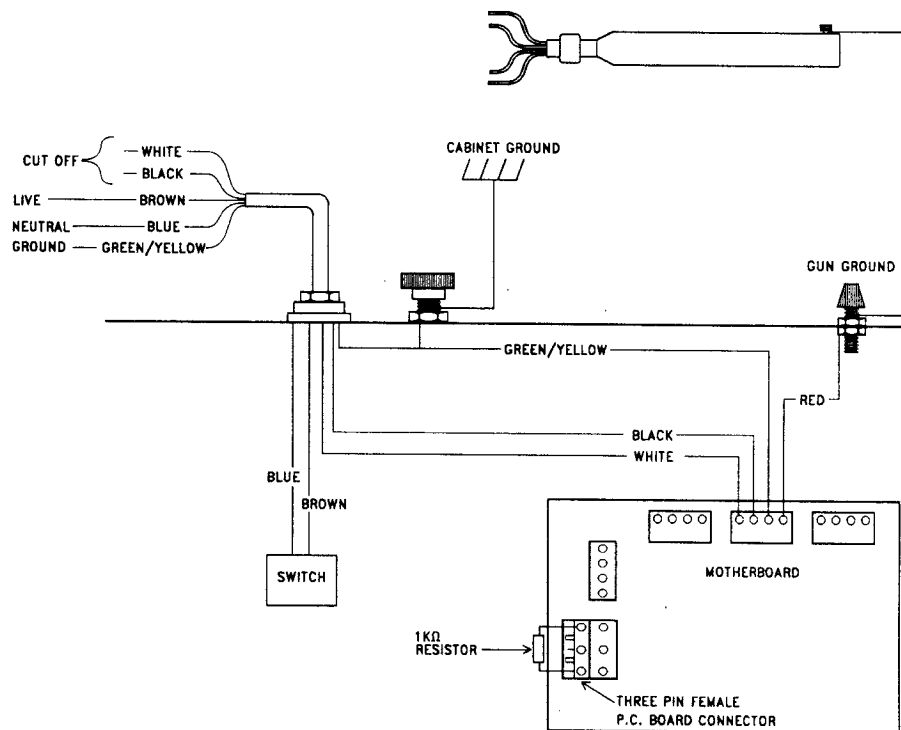

Figure 6 — Stand Alone Kit Installation (Automatic Gun)
1. A stand alone installation requires the use of a stand alone kit. See Kit Lists in Section 8 of this manual. The stand alone kit consists of a three pin female printed circuit board connector and a 1k ohm resistor. Refer to Figure 6. The stand alone kit is installed as follows:
- e) Install the 1K ohm resistor on the three pin printed circuit board connector as shown in Figure 6. Plug the female three pin printed circuit board connector into main circuit board. Reinstall top cover to unit.